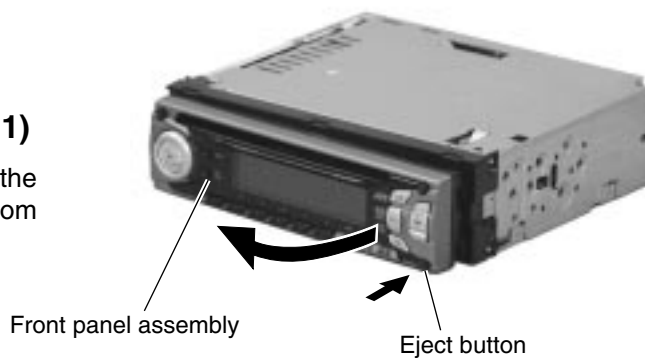

Fig.1
■ Removing the front panel assembly (See Fig.1)